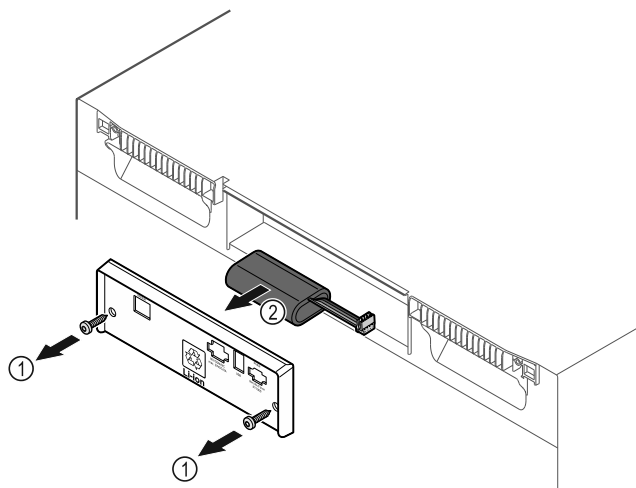

Fig. 153
- ▶ Unscrew screws and remove cover from the back of the appliance Fig. 153 (1).
- ▶ Disconnect and remove battery Fig. 153 (2).